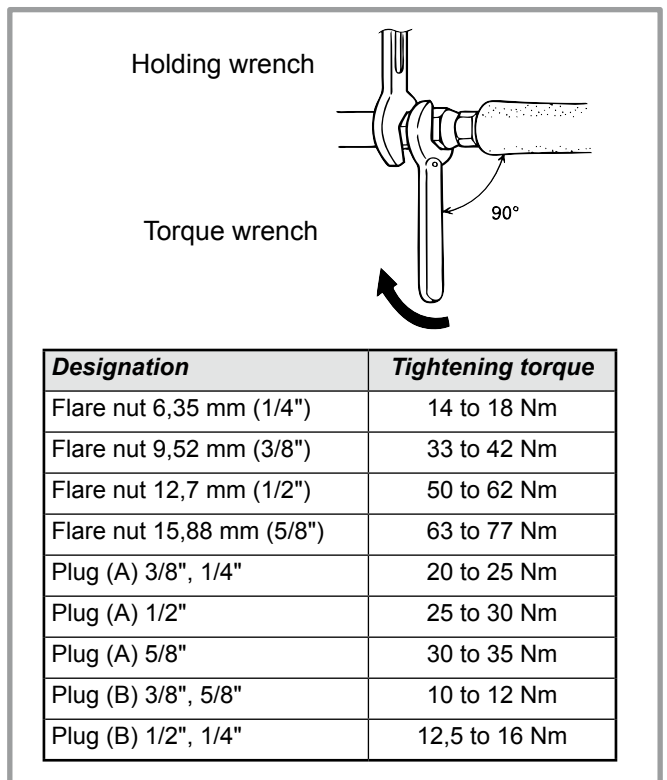

figure 18 - Tightening torque
- Depending on the case, connect an adapter (reducer) 1/4"- 3/8" or 1/2"- 5/8" (see figure 18).
- Refit the 2 plugs and tighten them to the recommended tightening torque figure 18 page 17.